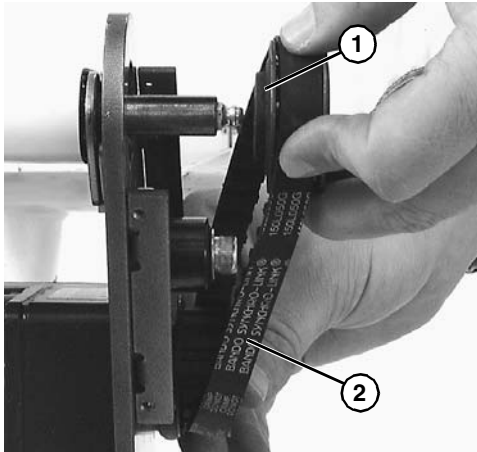

Figure 29
*If timing belt does not slide over pulley flange, loosen driven pulley set screws (**Figure 29, item 1**) and remove pulley with belt (**Figure 29, item 2**). For re-installation, see steps 6 through 9 on page 9.*